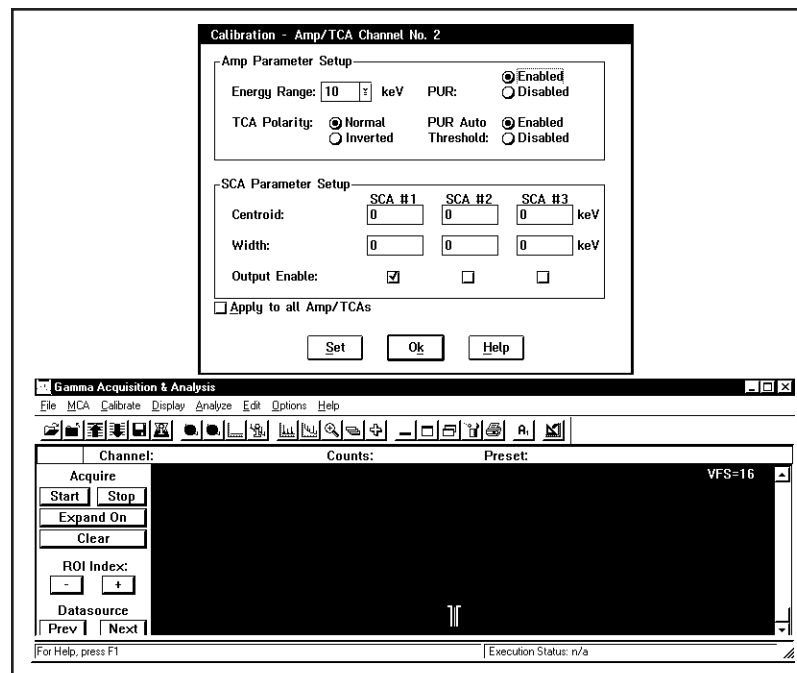

Figure 15 Calibrating the Selected's SCAs
3. Press Ok to enable the selected channel (note that the RDY light will be blinking on the 2016 module selected). The Calibration screen will be displayed along with the MCA View and Control (MVC) window as shown in Figure 15.